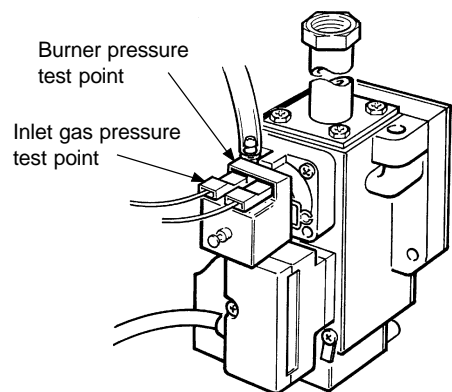

Fig. 17 - Alpha 240E and 280E
2. Loosen the gas inlet pressure test point screw on the gas valve (see Fig. 17). Ensure the gas supply is on and open the boiler service cock to purge in accordance with BS 6891.
5.5 CHECK THE BURNER PRESSURES - Fig. 17 or 17A